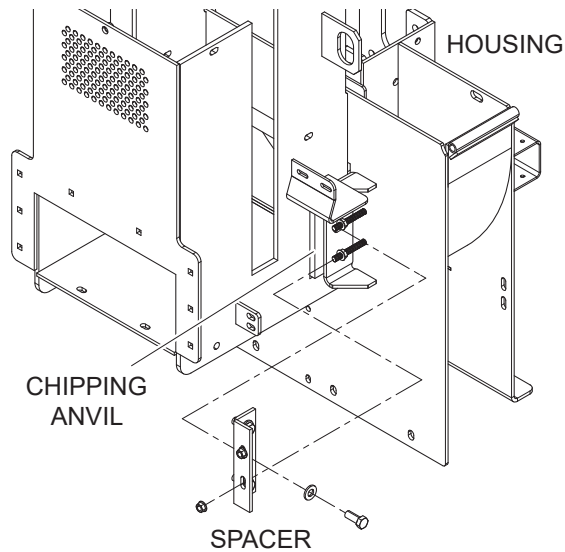

Figure 5.4, Chipping Anvil Location
1. Remove the two 3/8" retaining bolts securing the access cover to the main frame. Open access cover to allow access to anvil. See Figure 5.4 for anvil location.